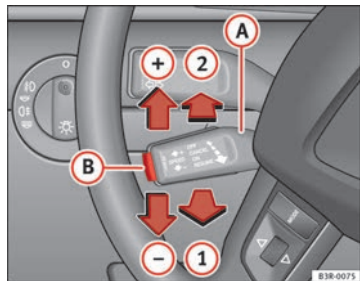

Fig. 140 Controls for the cruise control system
- Pull the lever **A** to position \Rightarrow fig. 140 **1** to activate the system.
- Move the lever **A** up towards \Rightarrow fig. 140 **+**.
- Move the lever **A** down towards \Rightarrow fig. 140 **-**.
- You can increase the set speed in steps of 2 km/h by briefly pressing the lever **A** up towards \Rightarrow fig. 140 **+**.
- You can decrease the set speed in steps of 2 km/h by briefly pressing the lever **A** down towards \Rightarrow fig. 140 **-**.
If no speed was stored when the system was temporarily disabled, a new speed can be set as follows: drive at the desired cruising speed and briefly press button ⇒ fig. 140 **B** (SET).
- Move lever **A** ⇒ fig. 140 to position **2** (click stop engaged).